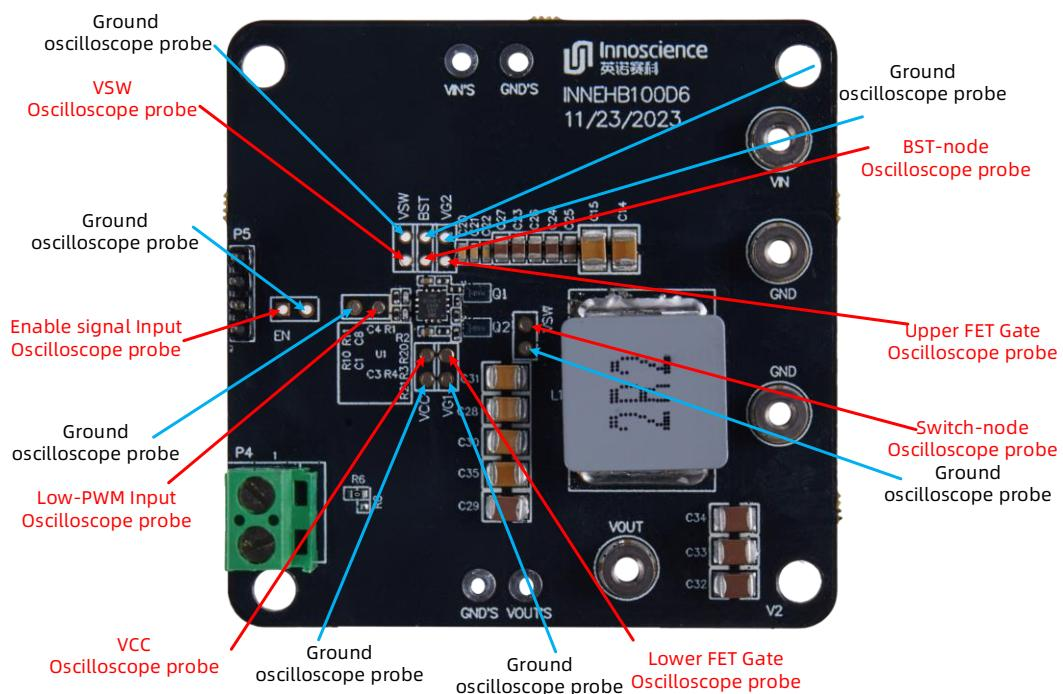

Figure 6 Measurement points
2. Connect the DC voltage source to VIN terminal and common ground GND terminal, as shown in Figure 6 (Pay attention to the polarity).